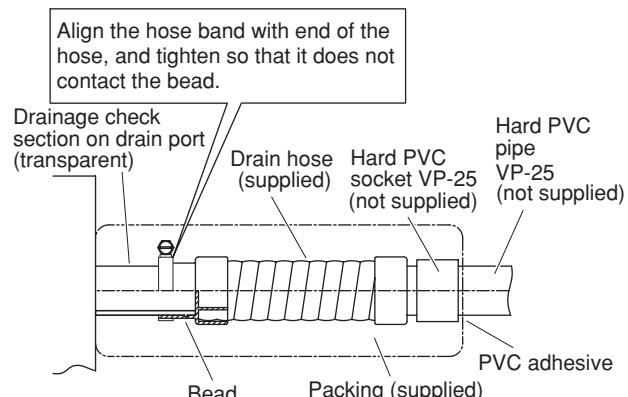

Fig. 3-105a
The PVC pipe must be purchased separately. The transparent drain part on the unit allows you to check drainage. (Fig. 3-105a)
- Tighten the hose clamps so their locking nuts face upward. (Fig. 3-105a)**